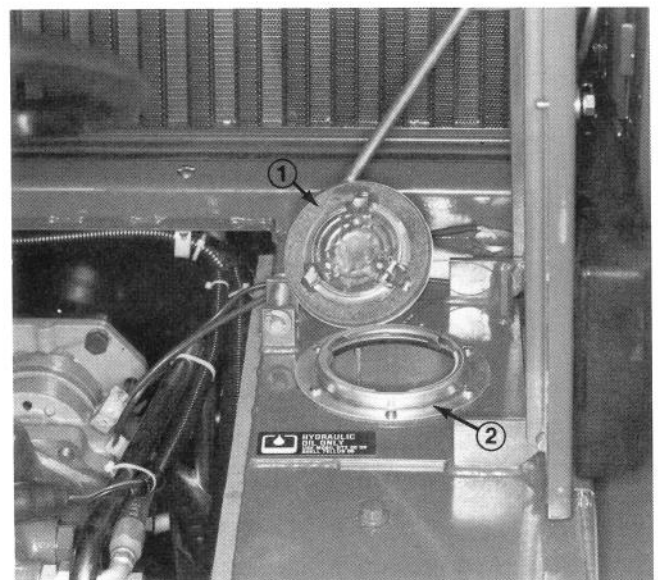

Figure 44
2. Clean around reservoir cover (Fig. 44). Remove cover and add hydraulic oil until it is even with arrows on sight glass (Fig. 43).